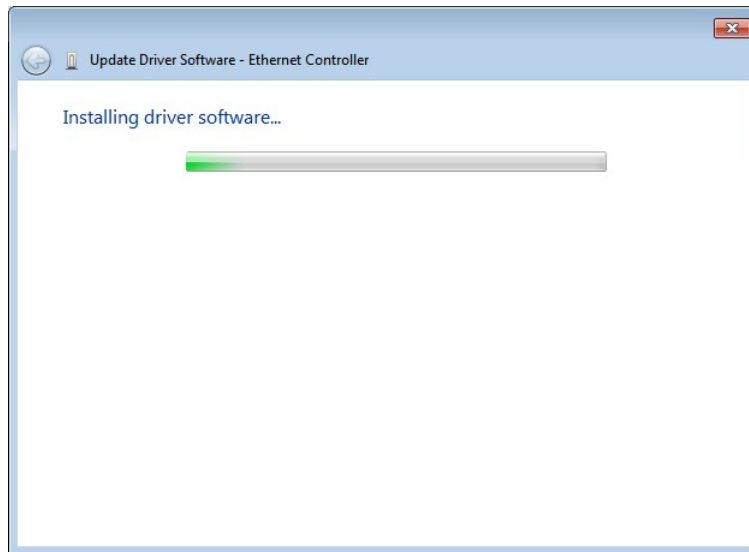

Figure 6-17: LAN Driver Installation
Step 11: Driver Installation is performed as shown in Figure 6-17.